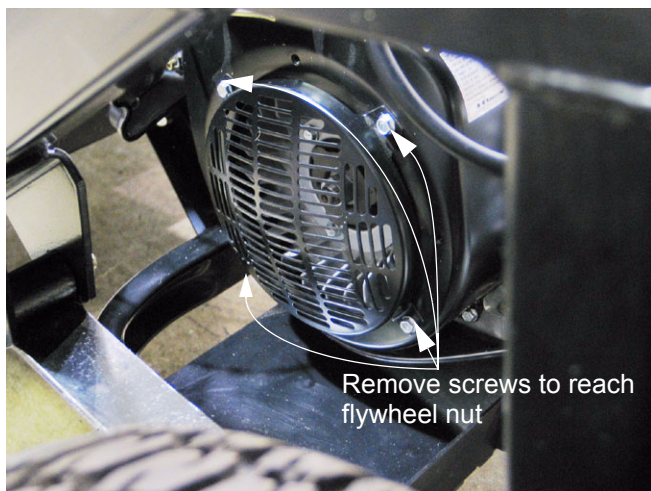

Figure 5.44
5.44. If it is necessary to hold the crankshaft from turning: choose one of three methods. See Figure 5.44.